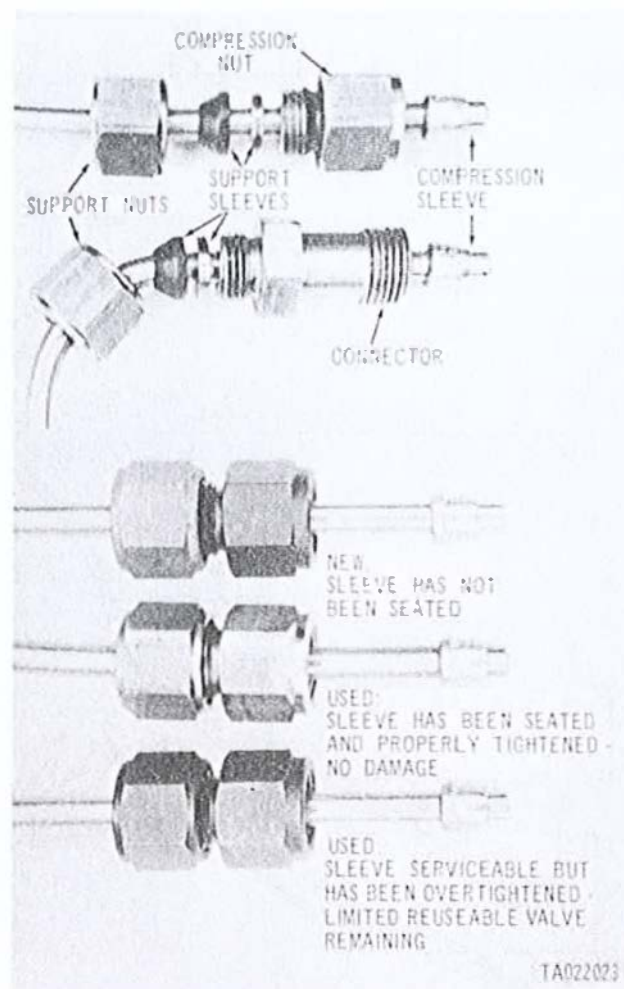

Figure 3-285. Comparison of serviceable sleeves - injector nozzle tube ends.
(2) *Fuel Injection Pump Fuel Tubes.* Flush the fuel tube assemblies with a high pressure flushing device. After flushing, blow dry with compressed air and plug tube ends with plugs or caps to assure cleanliness. Inspect tubes for correct inside diameter hose dimension. The correct inside dimension is 0.0815-0.0865-inch. Tubes with larger or smaller hole diameter are to be discarded. Carefully inspect all tubes for proper configuration using a current preformed tube of like function for comparison. Excessive bending or hand forming creates high stress points and greatly reduces tube life. Discard any tube that deviates from preformed comparison tube configuration. Inspect tube assemblies for cracks, splits or kinks. Inspect the compression sleeves (fig. 3-285), compression nuts, support sleeves and support nuts for defects or damage. Refer to figure 3-285 for comparison of sleeve fittings shown in serviceable and unserviceable condition. Straighten minor bends in tubing when possible. Discard entire tube assembly if fittings are damaged or tubing has been kinked.